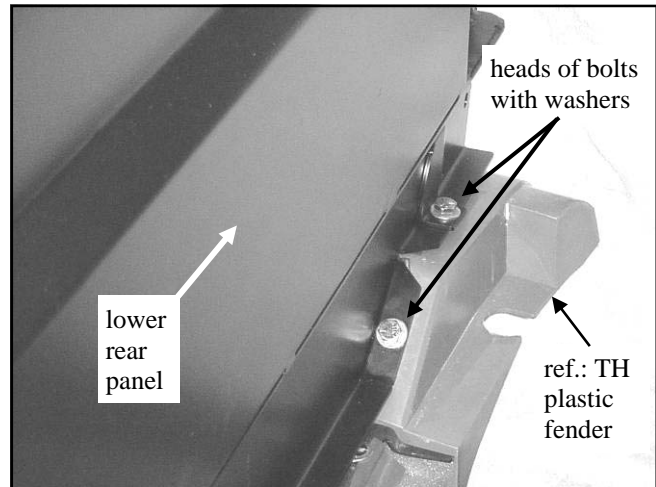

Fig. 8.1
8.1 With assistance, install the lower rear panel on top of the rear mount tabs (or on top of the plastic fenders on the TH model only). Orient the lower rear panel so that the bolt holes are facing the back of the vehicle and the foam headliner is facing forwards. See figure 8.1.
8.3 **MODEL TH ONLY:** drill four  $13/32$ " diameter holes through the plastic fender (two per side). Ref.: see figure 8.1.
8.4 Attach the lower rear panel to the rear mount tabs using a total of four  $3/8 \times 1$ " long hex head bolts, eight steel washers, and four locknuts. The heads of the bolts are to be up top and the locknuts underneath. See figure 8.1.